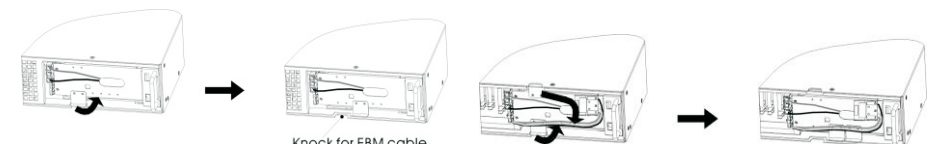

Figure2 Removing the UPS and BC Cable Knockout
2. On the bottom of the UPS front cover, remove the BC cable knockout (see Figure 2).